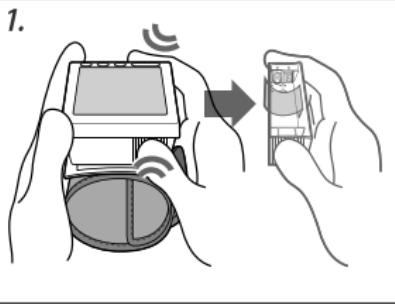

Fig.2
1. Remove the battery cover in the arrow direction, lightly pressing its sides (fig.2).